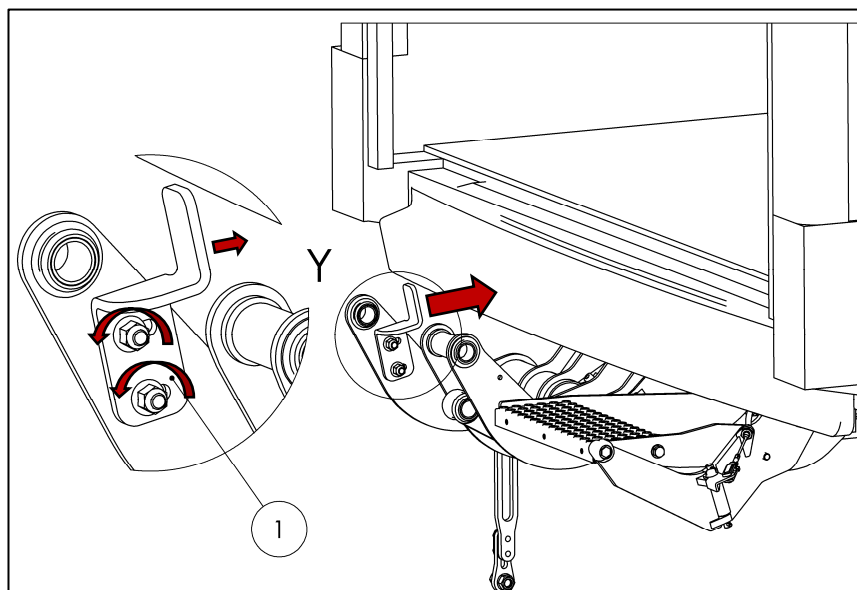

Fig. 50
- Loosen the platform stop (1) and push it toward the vehicle (see Fig. 50).